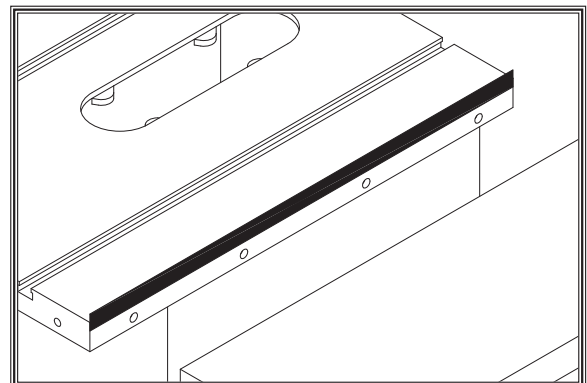

Figure 17. Masking tape location for adjusting the extension wing down.
- If the outside end of the extension wing tilts up, use a strip of masking tape along the top edge of the main table to shim the extension wing down (**Figure 17**).